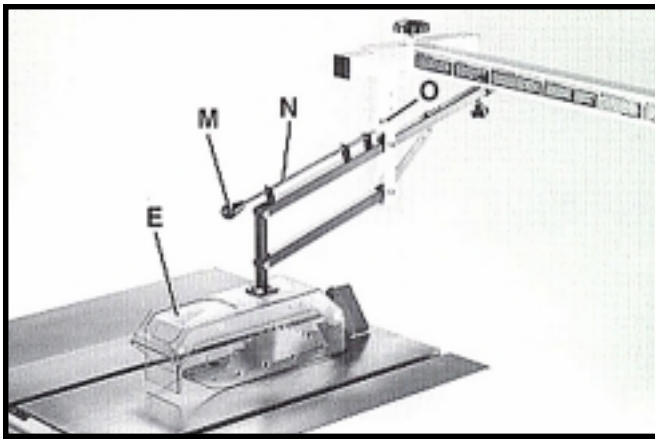
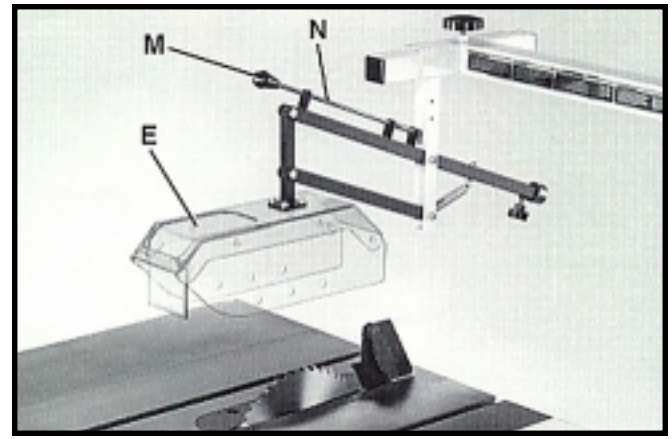

Fig. 29
Fig. 30
25. To raise the guard basket (E) Fig. 29, above the saw blade, simply lift up knob (M) until pin (N) engages with hole (O) on vertical mounting arm. Fig. 30 illustrates the blade guard basket (E) in the raised position. To return the blade guard basket (E) over the saw blade, pull out knob (M). The blade guard basket (E) will then return downward over the saw blade.